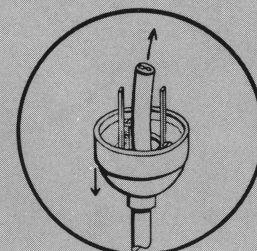

Fig. 2
2. Slip the plug back on the cord. (Fig. 2).